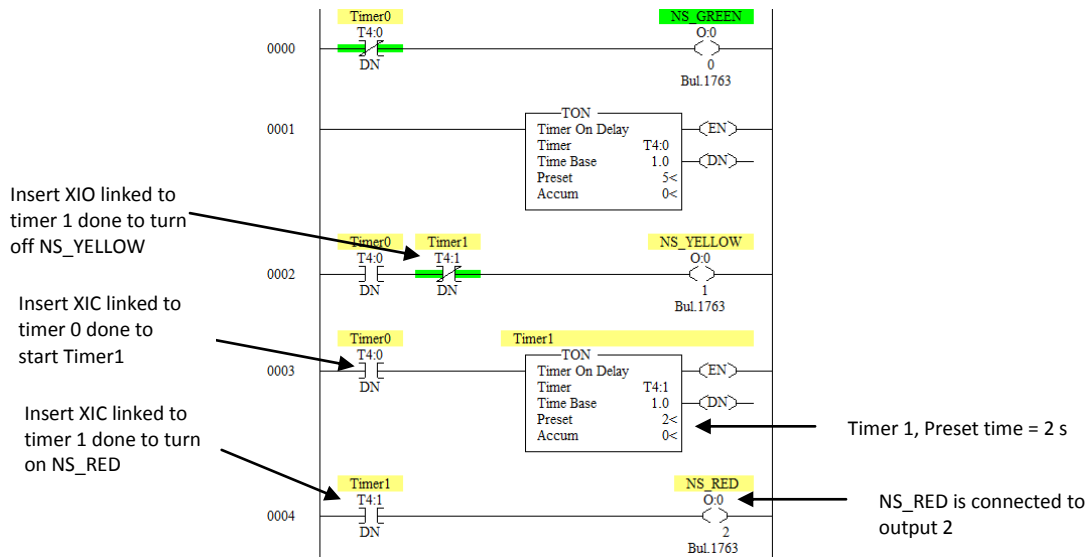

Figure 8: Timer 1 is started after timer 0 is done. After timer 1 is done it turns off the NS_YELLOW and turns on NS_RED
- End of timer 0 should start timer 1. At the end of timer 1, NS YELLOW is turned OFF and NS_RED is turned ON. Since timer 1 starts after timer 0 is done, a XIC switch inked to timer 0 to start timer 1 as in figure 8.